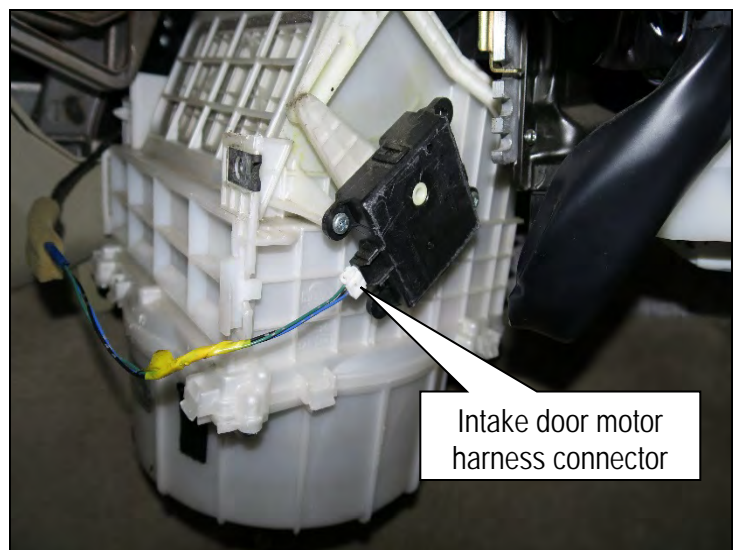

Figure 13
- f. Disconnect the intake door motor harness connector (Figure 13).